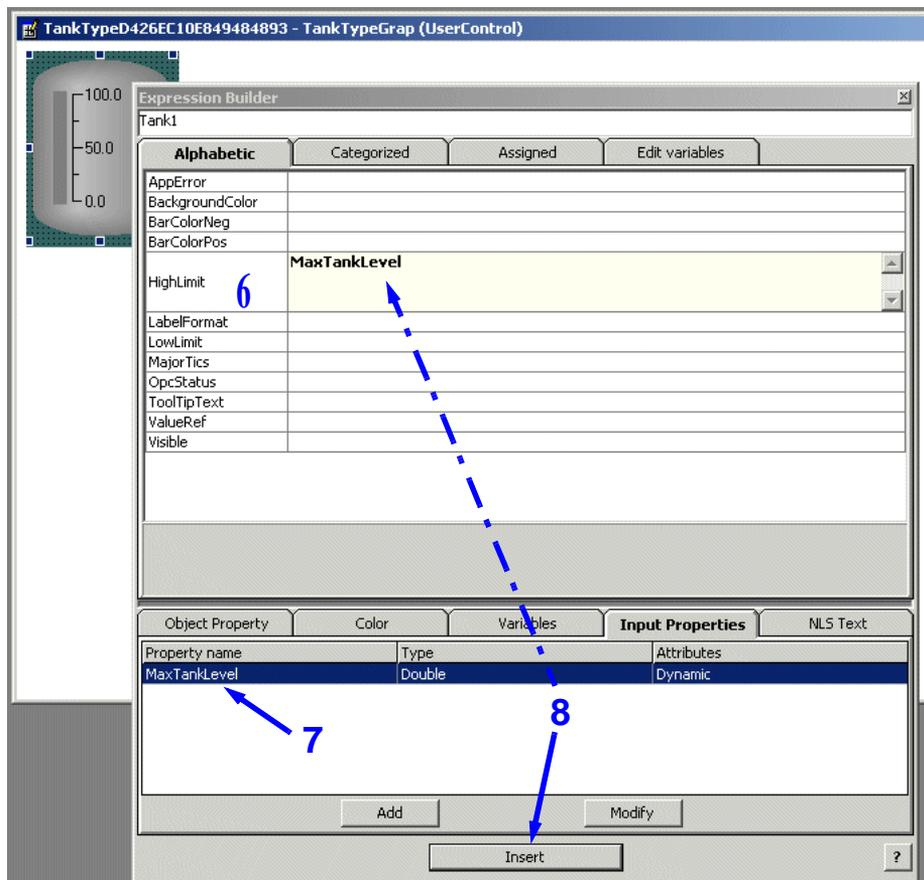

Figure 136. Linking Property
- Click in the area for **HighLimit**. See Figure 136.
7. Select the **Input Property**, in this case named MaxTankLevel. (Must be selected even if it is highlighted). See Figure 136.
8. Click **Insert** Button and the linked Input Property will appear in the area for the selected property. (Don't write the name manually). See Figure 136.